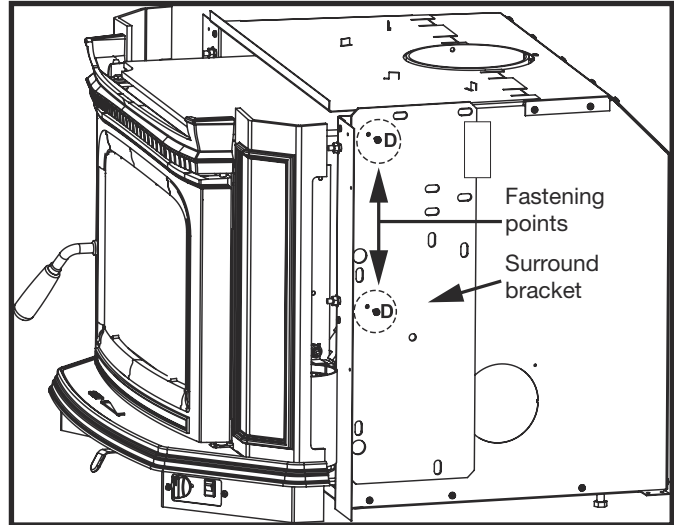
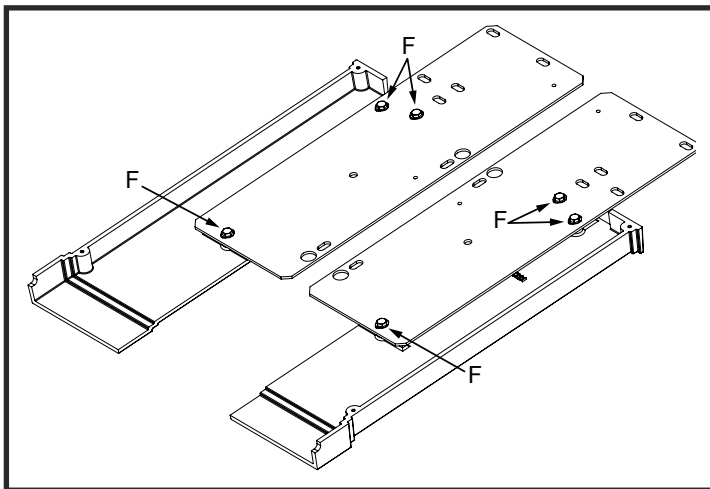

Figure 12: Removing the surround bracket.
Figure 13: Installing brackets on Surround Sides.
4. Remove the surround brackets from the stove (Figure 12) and attach to the Surround sides as shown in Figure 13. Use the bolts and washers in the mounting hardware kit found with the Surround Top (Figure 13).